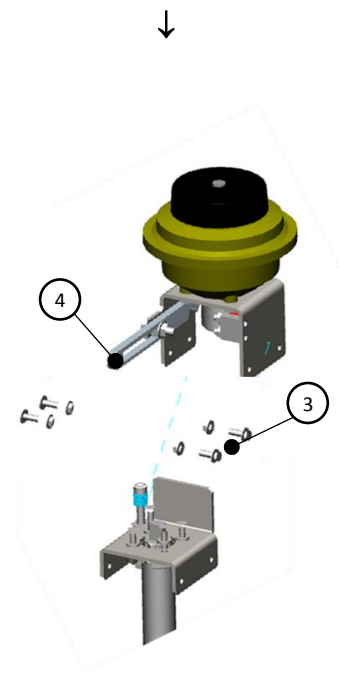

Figure 2
5. Disassemble the 4 crews, washers, nuts (3) from the Upper Half Bracket (KPN14\*\*SUP A54N)
6. Position the Upper Half Bracket on the Lower Half Bracket as indicated in figure 2.